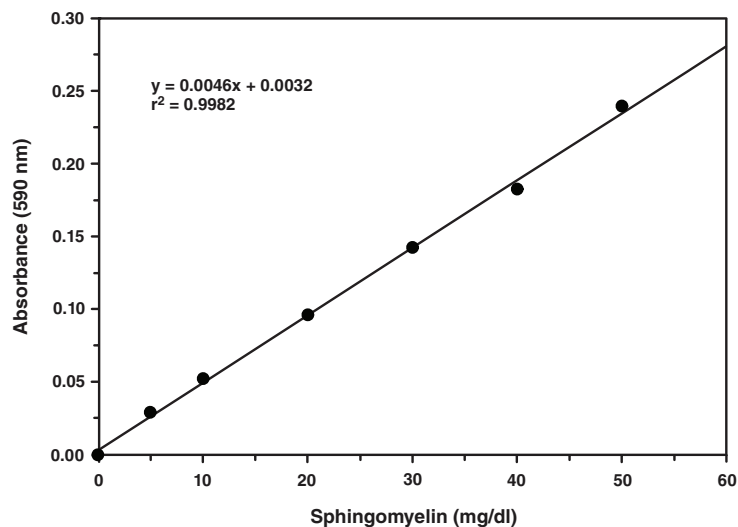

Figure 4. Sphingomyelin standard curve
3. Graph the CAV of the standards as a function of the final sphingomyelin concentration (mg/dl) from Table 1 (on page 11). See Figure 4 (on page 16) for a typical standard curve.